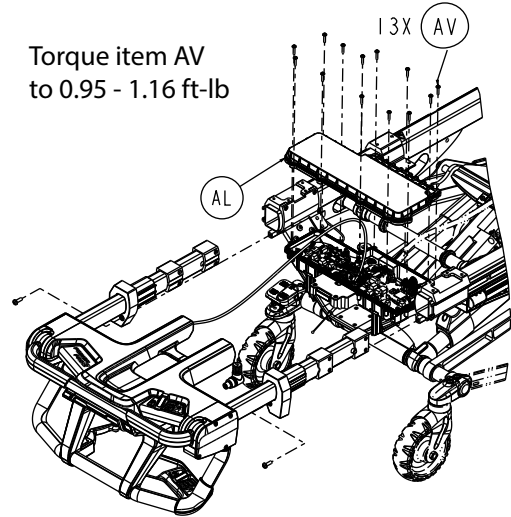

Figure 61 – Remove the FEIB enclosure screws
8. Using a T20 Torx driver, remove the thirteen round washer head tapping screws (AV) that secure the top FEIB enclosure (AL) to the bottom FEIB enclosure (Figure 61). Save the screws.